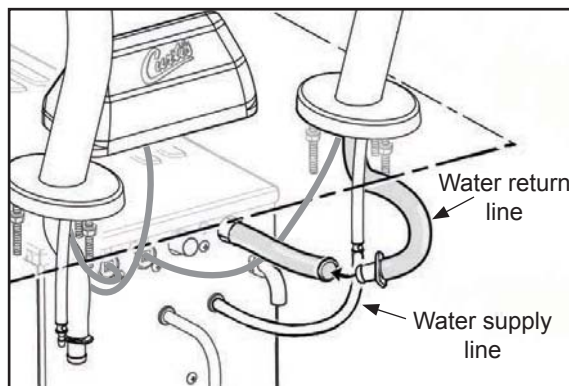

Figure 12 - Attaching the Water Hoses
- 21 Link the brew heads to the water tower by attaching the water return lines. These are the two larger diameter flexible silicone tubes that come from behind the water tower. The matching return lines from the spray head assemblies will have a straight fitting slipped into the end of the tube. Join the return line tubes together using this fitting. Make sure they are correctly oriented as shown in *Figures 12 and 13*.
- 22 Locate the two (2) 1/4 inch diameter water supply lines behind the water tower. Shorten them to minimize length when connected with the matching 1/4 inch tubing coming from the bottom of the brew head assemblies.
- 23 Insert the water supply tubes from the back of the water tower into the barbed connector on the supply line tube fittings from the brew head assemblies. See *Figure 12*.